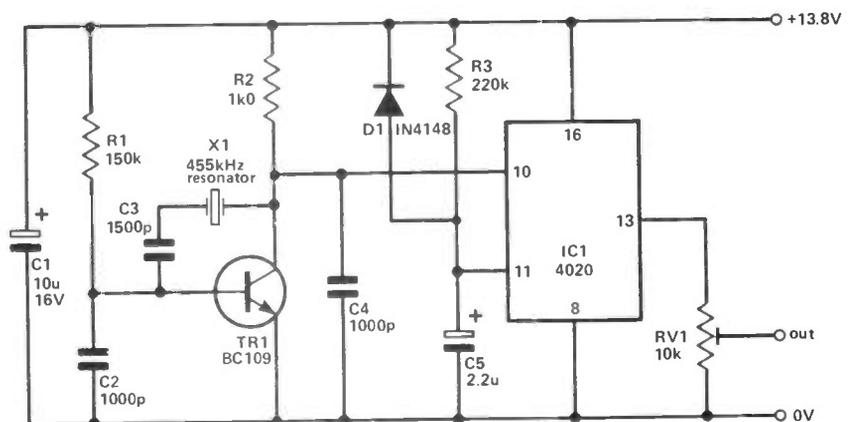

Figure 2: Automatically timed toneburst circuit.
2) **Automatically timed:** The standard automatic toneburst circuit is a 7.168MHz crystal feeding either a 4020 or 4060 ripple binary counter. But these crystals are expensive (about £2.50), so this design (*Figure 2*) uses a 455kHz resonator (approx 45p). The transistor oscillator circuit with the specified capacitors should pull the frequency down to 448kHz (which is 1750Hz × 256). This signal is fed into the 4020 where it is divided by 256, with the output being taken from pin 13. C5 and R3 provide the timing network (with a time constant of approx 0.5sec) and RV1 controls the deviation level.